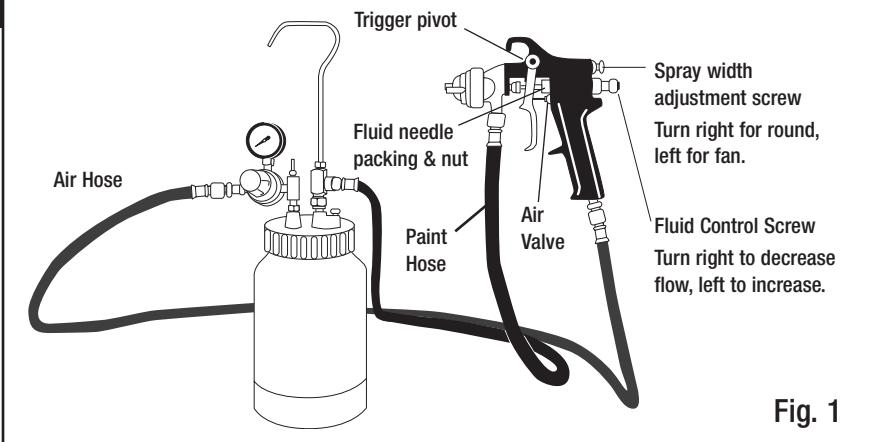

Fig. 1
1. Connect hose as shown in Fig.1.